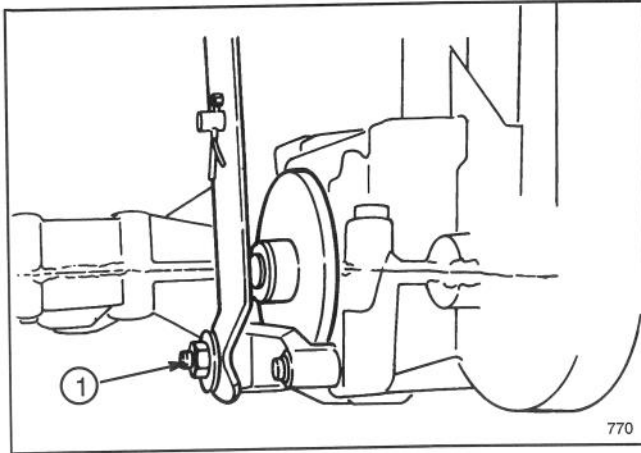

Figure 31
Adjust brake pucks if the parking brake does not hold or braking power is not sufficient when brake pedal is depressed. The brake is located on the left side of the transaxle (Fig. 31).
- Tighten locknut approximately 1/4 turn clockwise (Fig. 31).